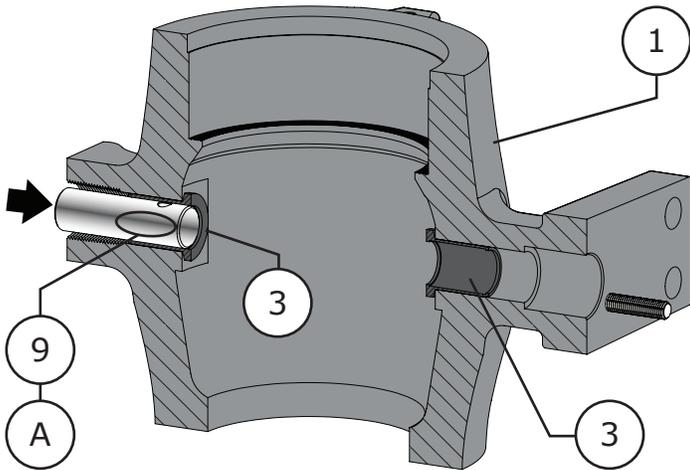
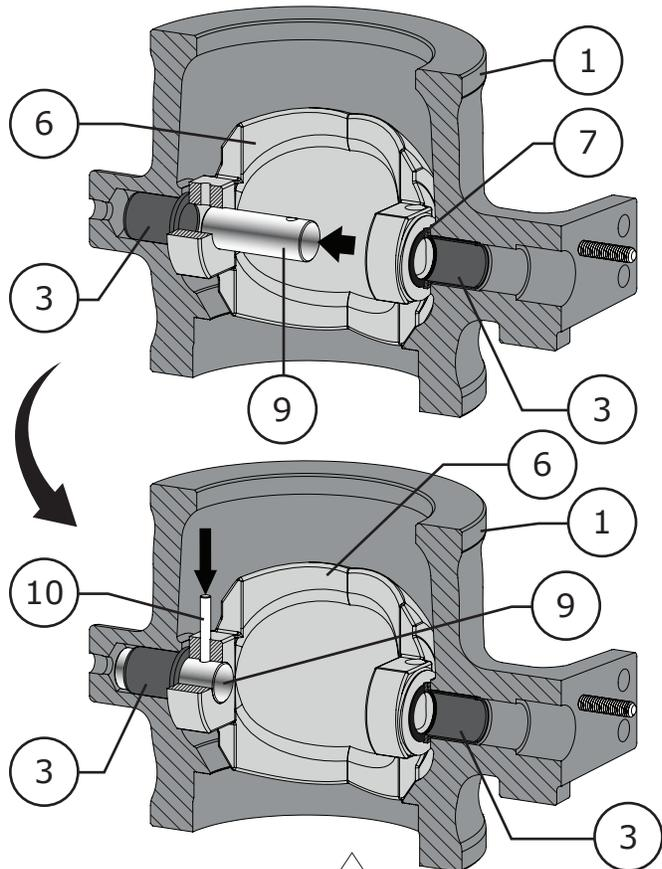

Figure 43 2, 3, 4, 10 & 12 Inch Follower Shaft Installation
Figure 45 6 & 8 Inch Follower Shaft / Pin Installation
- 2 Apply Permatex® Nickel Anti-Seize or equivalent (Key A) to the follower shaft (Key 9) and insert the follower shaft in to the body (Key 1) through the pipe plug hole as shown in Figure 43. The follower shaft should sit inside the outboard bearing (Key 3) ready to be pushed into the outboard ear of the ball (Key 6).
NOTE: For 6 and 8 inch valves the pipe plug hole is too small for the follower shaft. The follower shaft will need to be inserted through the outboard ear of the ball (Key 6) after the ball has been installed. Refer to Figure 45.
- 4 Push the follower shaft (Key 9) in to the ear of the ball (Key 6) and align the pin holes. Install the follower shaft connection pin (Key 10) through the ball and follower shaft. Refer to Figures 43 & 46 for valve sizes 2, 3, 4, 10, & 12. Refer to Figure 45 for valve sizes 6 & 8.